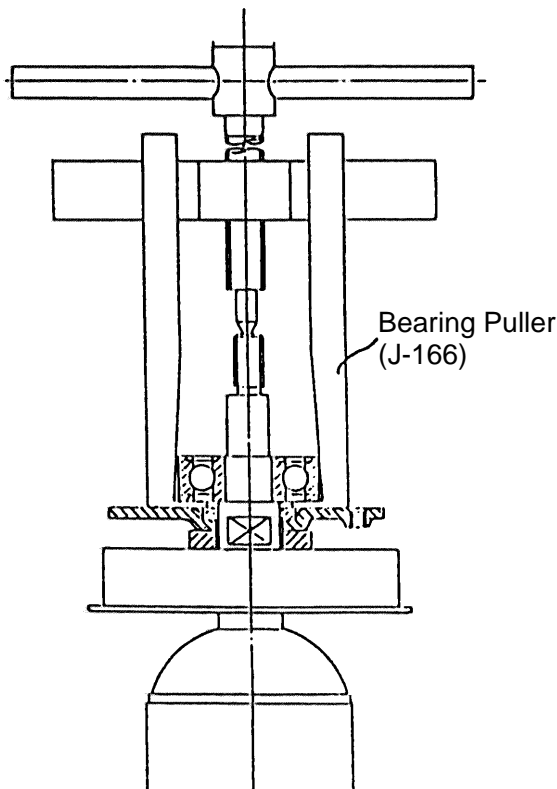

Fig. 1
- (4) After removing the three M5 x 14 Machine Screws ①, the Armature ①⑥ can be extracted together with the Bearing Cover ①④, and related parts.
- (5) Carefully wrap the Armature Ass'y ①⑥ with a soft, clean rag to protect it from being damaged, and clamp it securely in a vise. Then, remove the M8 U-Nut ⑦, and extract the Pinion ⑧ and the Key ①⑤.
- (6) For the models indicated under Fig. 1, the Ball Bearing ①① can be removed from the Armature ①⑥ by utilizing a J-166 Bearing Puller (special repair tool) as illustrated. After the Ball Bearing has been removed, the Bearing Cover ①④ can be easily taken off.